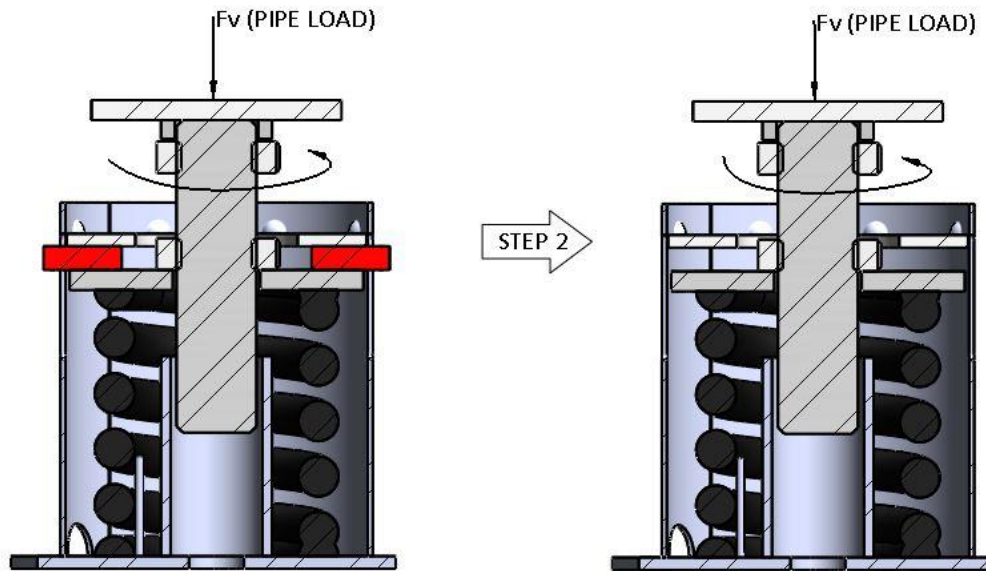

Figure 5.4 – Type F: View with Pre-Set Stops installed.
-)] Type F Springs (Figure 5.4), transfer load from pipe to spring support by rotating the half Nut that's welded on the threaded load tube in a Left to Right action. A mechanical tool (such as a spanner) is recommended rather than adjusting by hand. Then remove pre-set stops by hand.